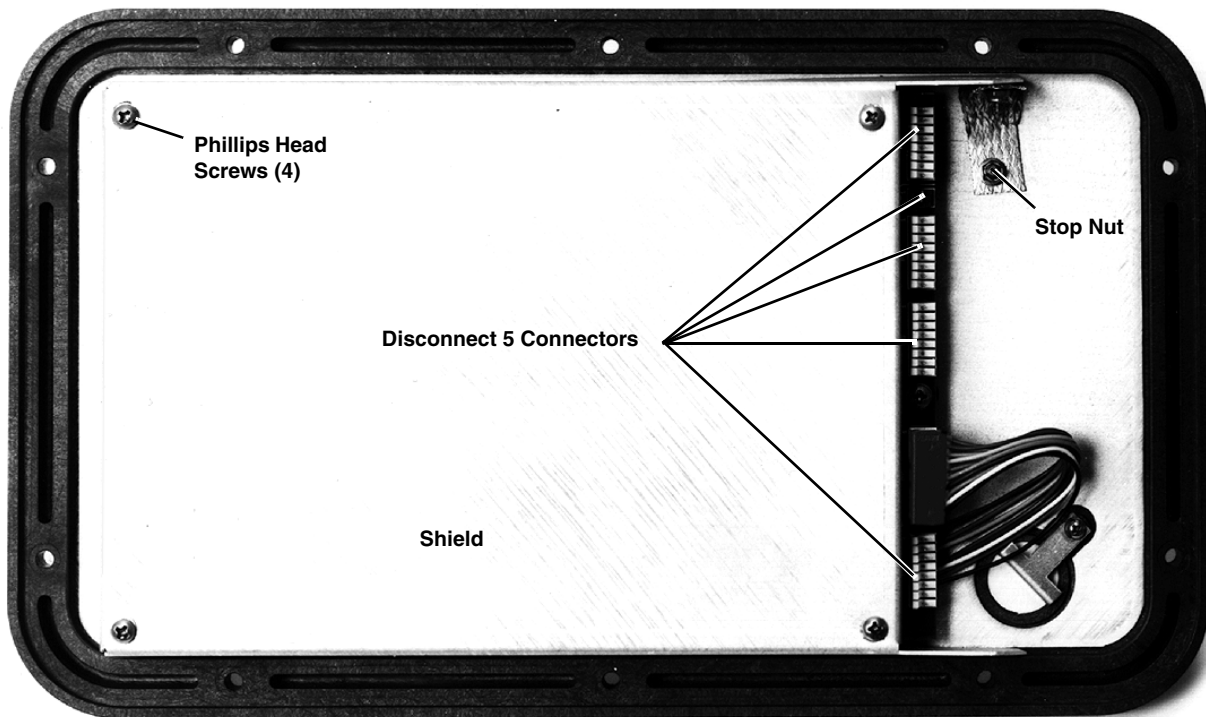

Figure 5-8 Underside of the Control Box Cover
3. Lift the cover and frame off the control box and turn it over, as shown in Figure 5-8.
4. The control box cover assembly may be disconnected from the control box lower section by disconnecting the five connectors (see Figure 5-8) and the grounding strap.